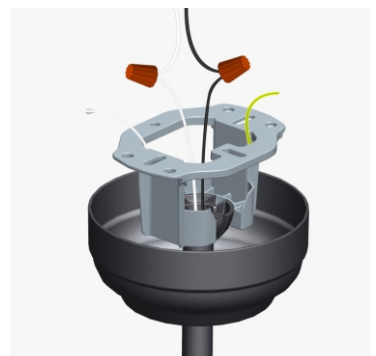

Fig 6.2
6.2 Fasten the safety rope to a safe place. The white wire from the motor hub corresponds to the neutral wire from supply power, and the black wire corresponds to the live wire from supply power. Use the wire caps to tuck the wires together accordingly. The Yellow/Green wire is ground wire and needs to be connected accordingly. (Make sure all the wires are connected to the correct colors as shown in Fig 6.2.)